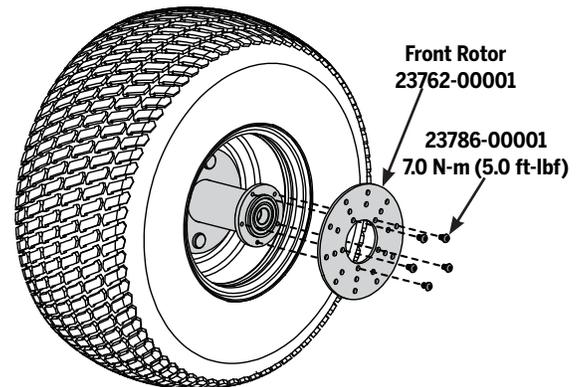

Figure 85: Front Rotor Explode
6. Using a 5 mm hex wrench, remove the five fasteners holding the rotor in place. See **Figure 85**.
9. Using a 5 mm hex wrench, install the five fasteners holding the Rotor in place. See **Figure 85**. Torque to **7 N-m (5 ft-lbf)**.